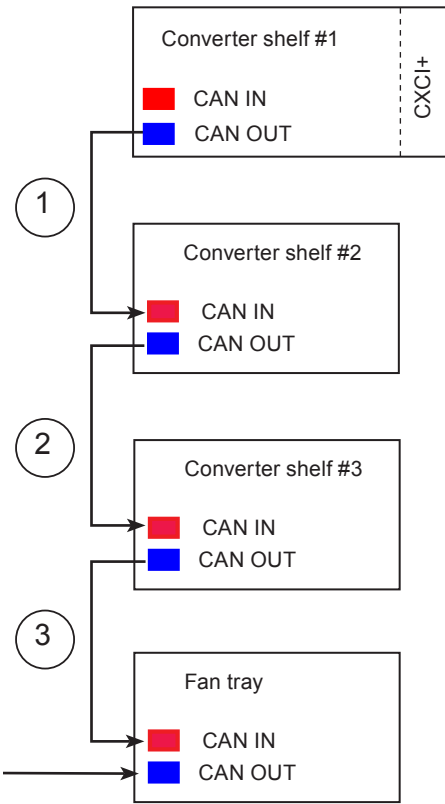

Figure 25 — CAN Bus cabling
2. Insert the CAN terminator (P/N 5450228-001) in the last CAN OUT location. See Figure 25.